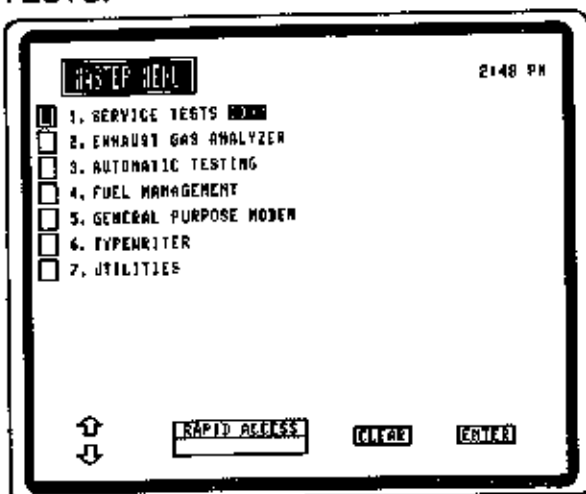

Figure 19
1. The Master Menu (see Figure 19) appears after the power is turned "ON." From the Master Menu, select Item 1, "SERVICE TESTS."